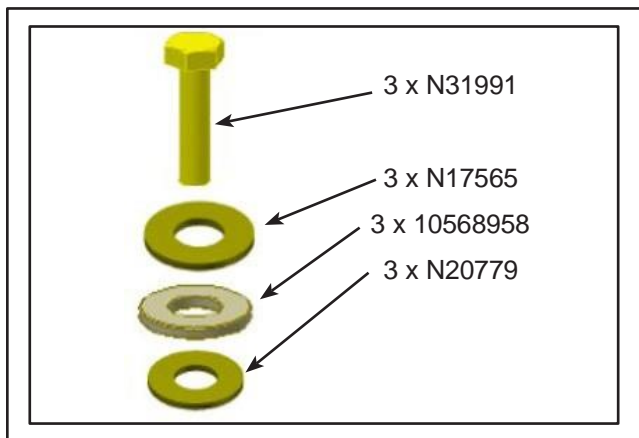

Figure 4 - Brake Pedal Hardware
- 1.15. Put back the pedal in place. Apply medium thread locker Loctite 243 on the 3 new screws N31991 and install with the required hardware (Figure 4). Torque at 7 lb-ft ( $9 \pm 1$  N•m).